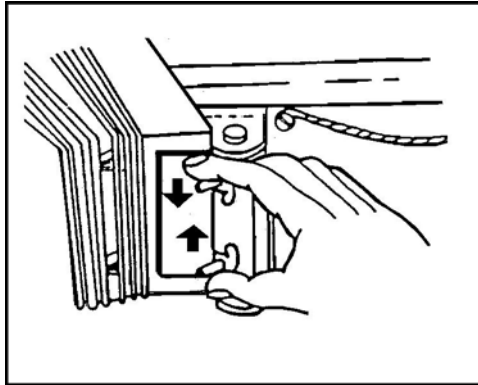

Figure 6. Latches.
- (1) Squeeze the AP chute latches (Figure 6).